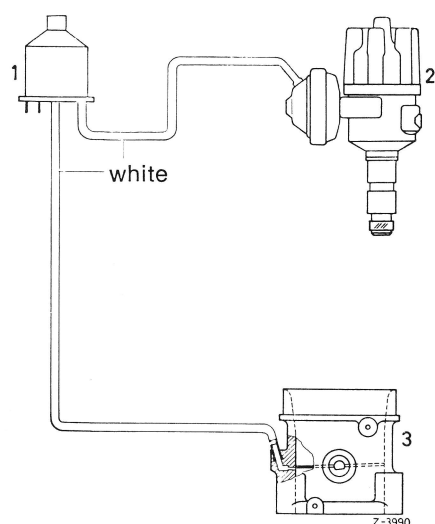

Fig. 2
The vacuum line from the valve connection to the vacuum box of the ignition distributor is provided with a two-way valve (1) (Fig. 2).